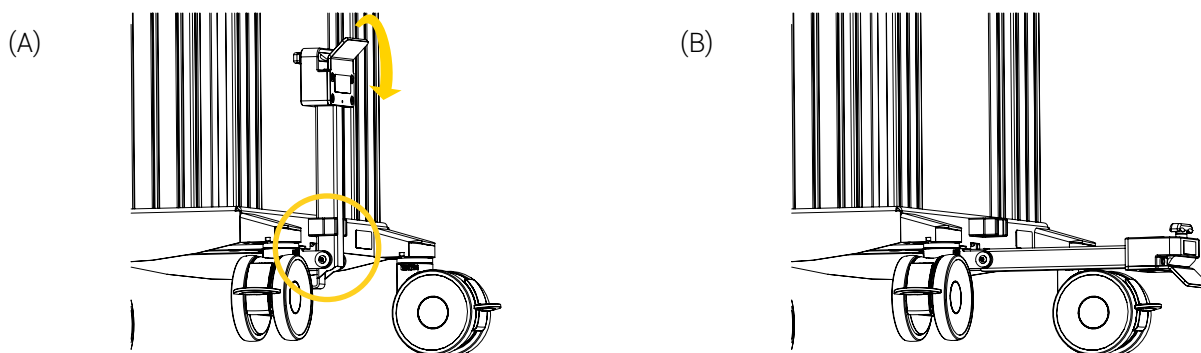

Figure 10 : Pivoting the fold-up hitch
2. If required, disengage the braking system on all four (4) dual wheel swivel casters of the THS Neonatal Cart.
3. If required, disengage the four (4) locking brakes of the incubator, then engage the directional castor to facilitate straight movements.
4. Lower the THS Neonatal Cart fold-up hitch using your foot to free it from its clip (Figure 10 A), then pivot the arm downwards until it has reached its final position (Figure 10 B).